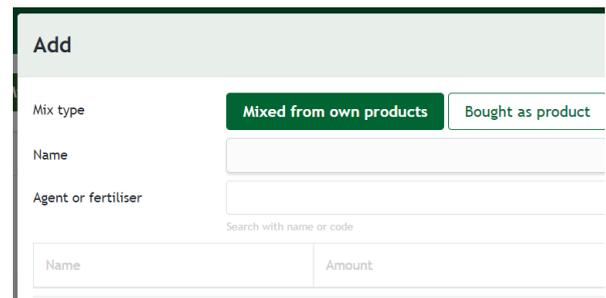

Figure 6
3. You will get a screen as seen in figure 6. Choose what type of mix you want to make. A self-mixed mix is composed from the individual products in the stock, where the proportions can differ per use. A purchased mix has fixed proportions, for example potting soil that contains fertilisers.
2. You will then be taken to a screen as shown in figure 6. Click on the green button "+ Mix" to create a mix.